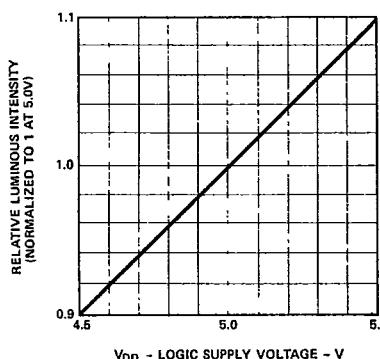
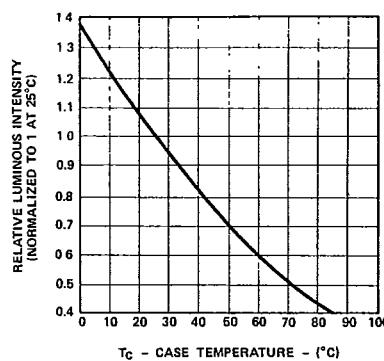

Figure 4. Relative Luminous Intensity vs. Logic Supply Voltage
Figure 5. Relative Luminous Intensity vs. Case Temperature
- 7 See Figure 4 for relative luminous intensity versus ambient temperature. See Figure 5 for relative luminous intensity versus logic supply voltage